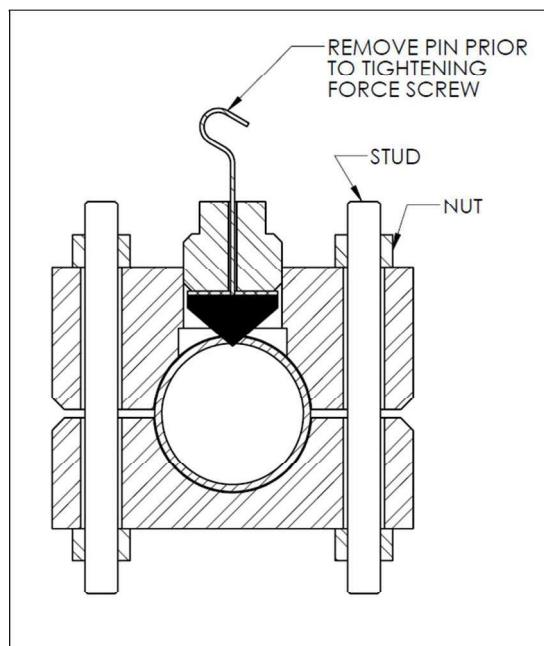

Figure 5
7. Hold the PLIDCO Smith+Clamp firmly in position and uniformly tighten studs and nuts to the torque value indicated in Table 1. An equal gap all around the two halves of the fitting must be maintained. Ensure there is full nut engagement by having a minimum of 2 threads protruding beyond the nuts as shown in Figure 5. If the fitting is to be fully welded to make the PLIDCO Smith+Clamp permanent, leave a minimum of 3/16"(4.8mm) thread protruding above each nut.
9. Tighten the force screw to a torque value between 70 to 80 ft-lbs(95 to 109 Nm). Completed assembly should look as shown in Figure 5, less the pilot pin.